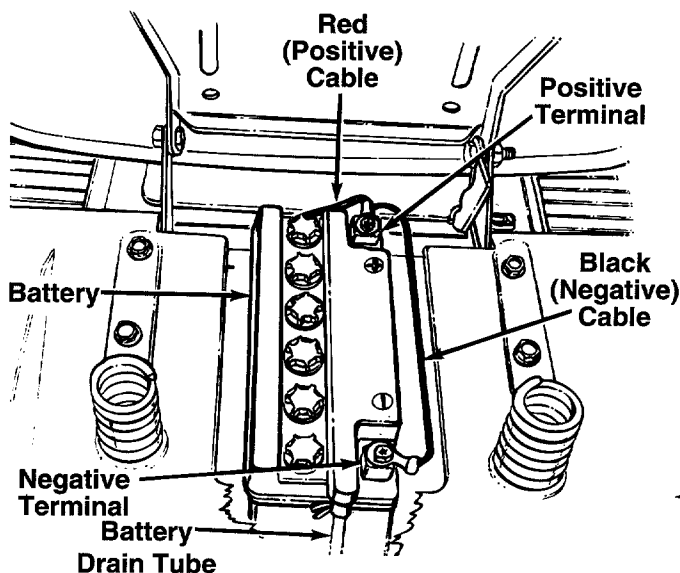

FIGURE 6.
← See figure 6. Route the battery drain tube down beside the battery.
4. Remove the hex bolt from the positive (+) terminal. Place the positive cable on the positive terminal. See figure 6. Secure with hex bolt. Be careful not to lose the nut inside the terminal.